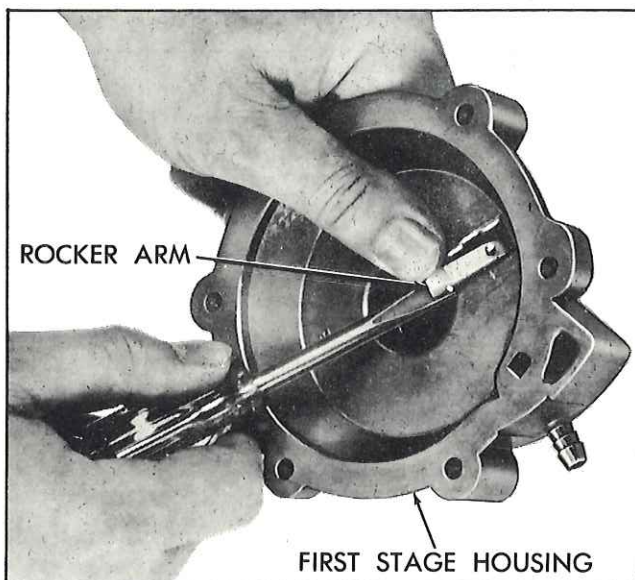

Fig. 17—Removing Rocker Arm
6. If necessary, remove rocker and swivel arms. Position pin for removal by prying with screwdriver, (fig. 17). Grip pin with water pump pliers and remove pin. Remove swivel arm, rocker arm and bushings.